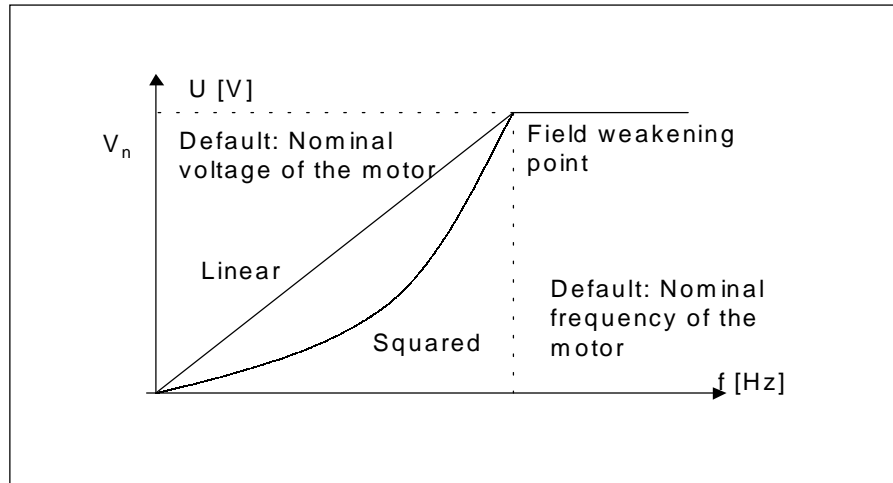

Figure 2.4-1 Linear and squared V/Hz curves.
- 0 The voltage of the motor changes linearly with the frequency in the constant flux area from 0 Hz to the field weakening point (par. 6. 3) where a constant voltage (nominal value) is supplied to the motor. See figure 2.4-1.
Squared: The voltage of the motor changes following a squared curve form with the frequency in the area from 0 Hz to the field weakening point (par. 6. 3) where the nominal maximum voltage is supplied to the motor. See figure 2.4-1.